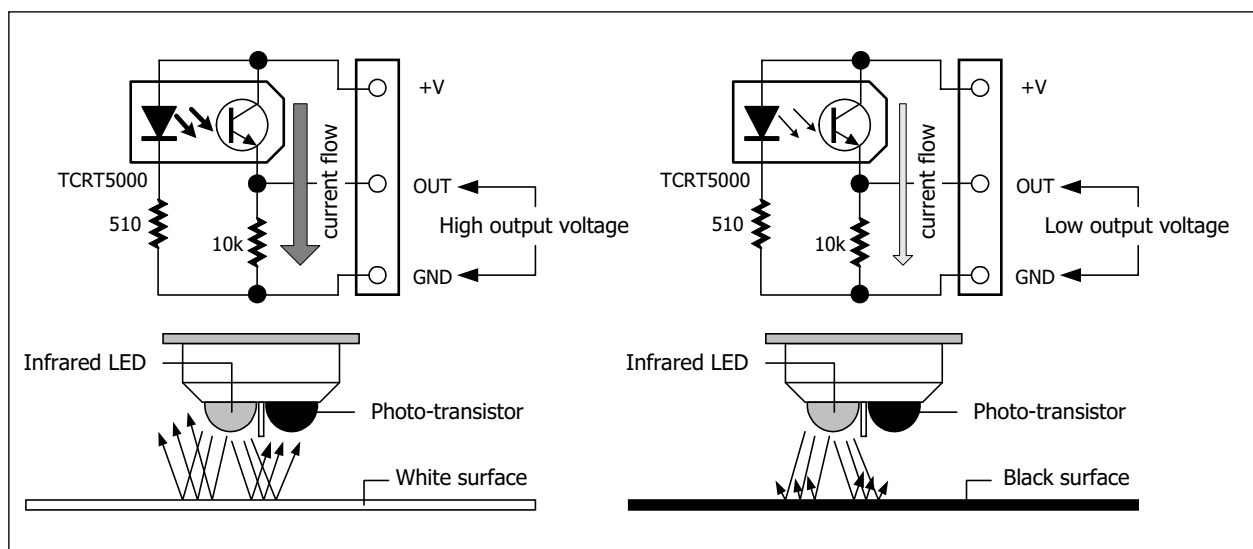

Figure 7-1 The operation of ZX-03 Infrared reflector sensor board with white and black surface
The heart of this sensor is TCRT5000 reflective object sensor. It is designed for close proximity infrared (IR) detection. There is an infrared diode behind its transparent blue window and an infrared transistor behind its black window. When the infrared emitted by the diode reflects off a surface and returns to the black window, it strikes the infrared transistor's base, causing it to conduct current. The more infrared incident on the transistor's base, the more current it conducts. The figure 7-1 shows the operation of ZX-03 sensor.